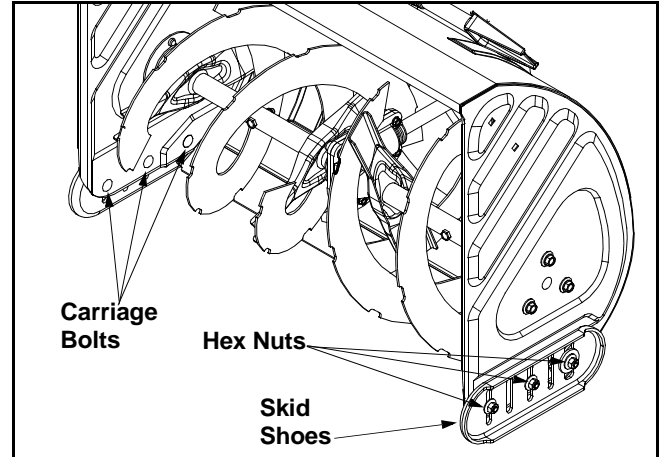

Figure 12
The space between the shave plate and the ground can be adjusted. See Figure 12.
- Remove the six carriage bolts, belleville washers and hex nuts which attach two skid shoes to the snow thrower on two sides. See Figure 12.